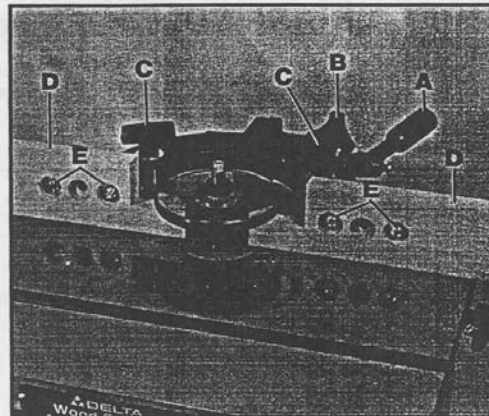

Fig. 18
Either half of the fence (D) can be moved independently depending on the type of work you are doing. To move the fence, loosen the lock handle (A) Fig. 18, and loosen one of the hand knobs (C) depending on which fence half is to be moved. Turn the knob (B) until the correct setting is obtained. Then lock hand knob (C) and lock handle (A).
Each wooden fence half (D) Fig. 18 should be adjusted as close to the cutter as possible. This is done by loosening the round head screws (E) in the counterbored holes in the fence half (D). Once fence adjustments are made, retighten screws (E).